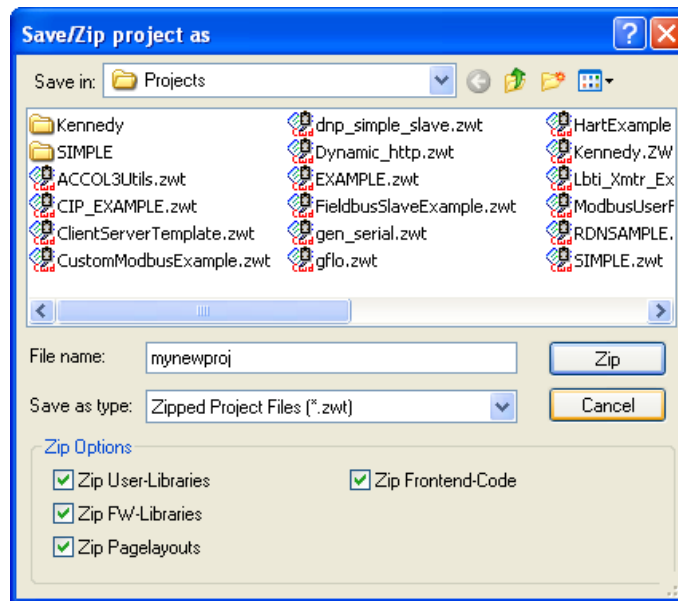

Figure 4-2. Saving a Backup of Your Project
2. In the “Save/Zip project as” dialog box, specify a project name in the **File name** field. In *Figure 4-2* we chose the name **mynewproj**.